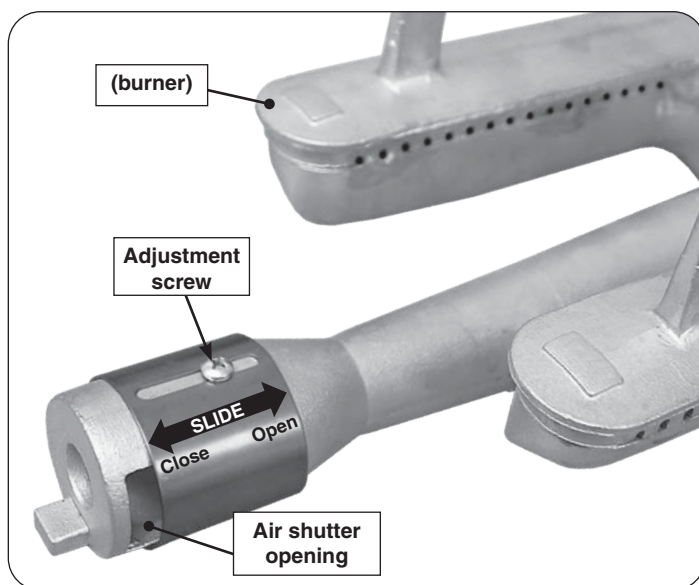

Fig. 49-2 Main burner air shutter adjustment detail
1. To adjust the air shutter, loosen the adjustment screw with a Phillips screwdriver. Then slide the shutter to open or close it. See Fig. 49-2 for details.